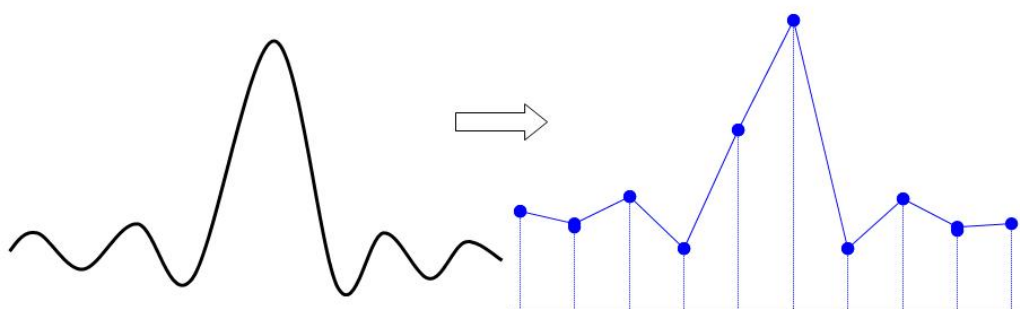

Figure 10-1
- **Waveform Distortion:** Due to low sampling rate, the details of the waveform might be missing, the sampled waveform might have large different than the actual signal, as shown in Figure 10-1.